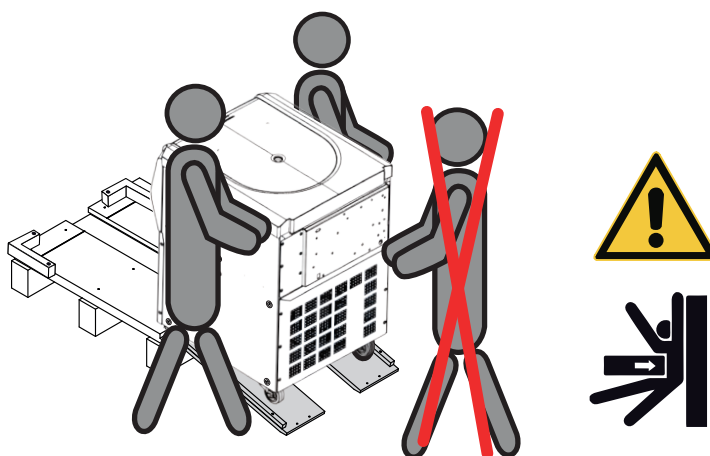

Figure 1-8: Rolling the Centrifuge off the Pallet
16. Place one person on each side of the centrifuge, as shown in Figure 1-8.